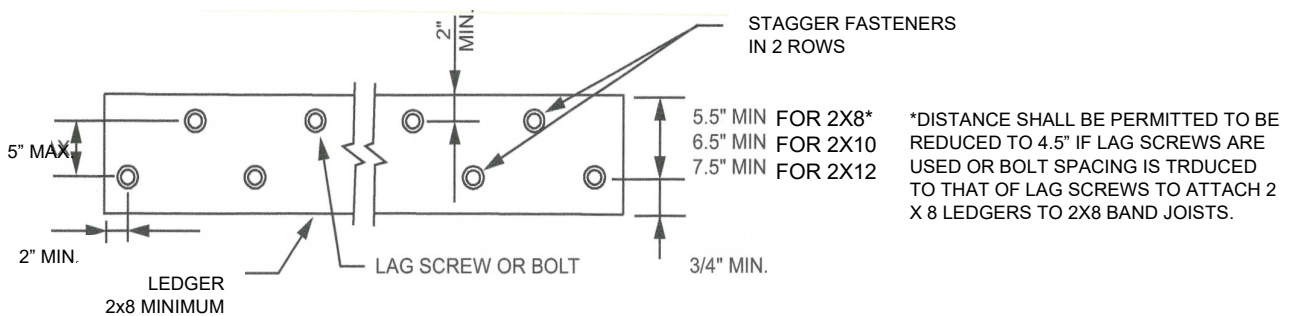

FIGURE R507.9.1.3(1)
- a. Lag screws or bolts shall be staggered from the top to the bottom along the horizontal run of the deck ledger in accordance with Figure R507.9.1.3(1).
- d. The minimum distance from bottom row of lag screws or bolts to the top edge of the ledger shall be in accordance with Figure R507.9.1.3